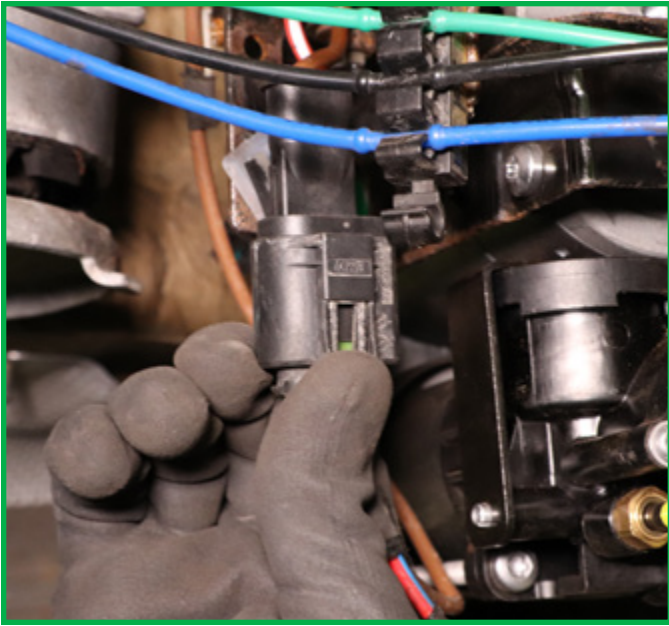

FIGURE 36
8. Connect the three (3) electrical connectors from the valve block and compressor assembly. (Figures 36, 37, 38)